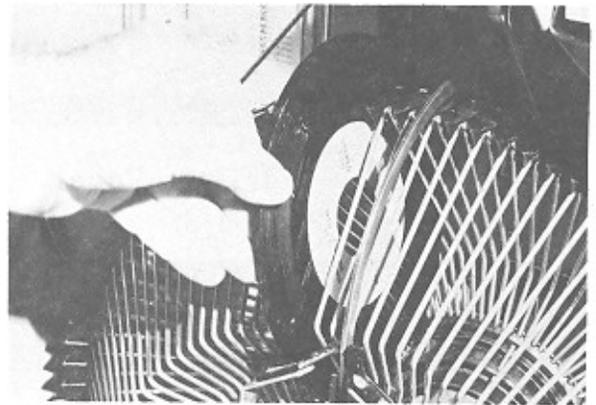

Figure 3-2. Changing A Record
4. Install records as shown in Figure 3-2.